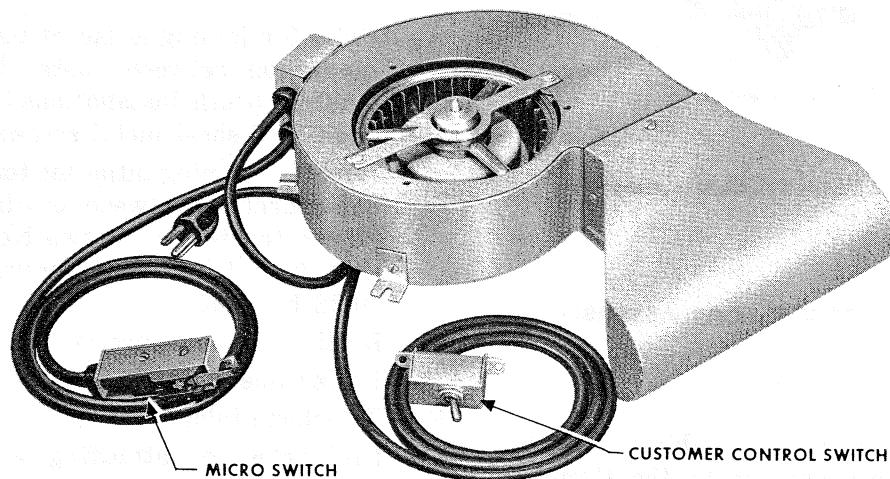

Fig. 7 — KS-16797, List 9 Blower Assembly
8. KS-16797, LIST 9 BLOWER (FIG. 7)